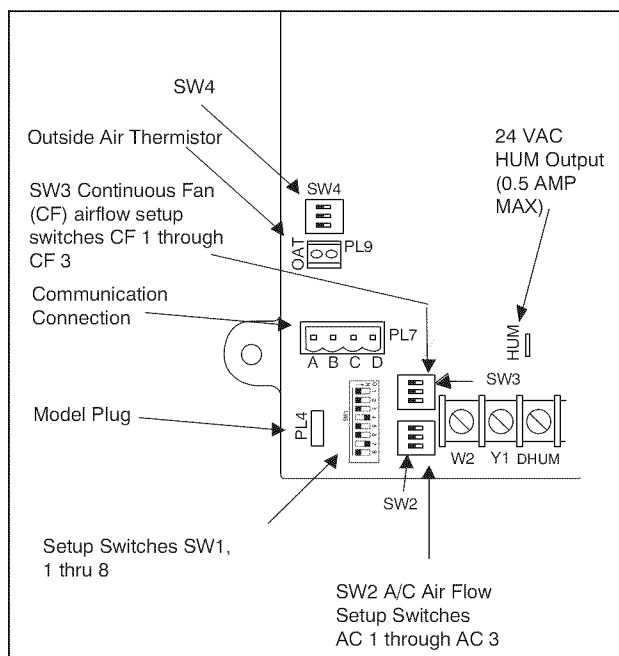

Fig. 31 - Furnace Control
5. Turn Setup Switch SW1-2 on furnace control ON (see Fig. 31).